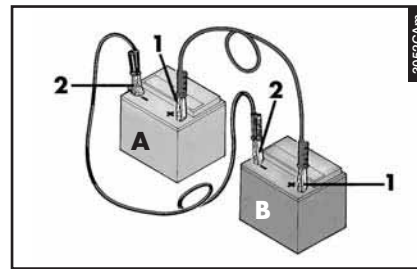

fig. 96
If the battery is flat, it is possible to start the engine using an auxiliary battery (**B-fig. 96**) with the same electrical characteristics as the original battery (**A-fig. 96**) (see chapter "Technical specifications").
– Connect a jump lead to the positive terminals (**1-fig. 96**) of the two batteries (+ sign next to the terminal).